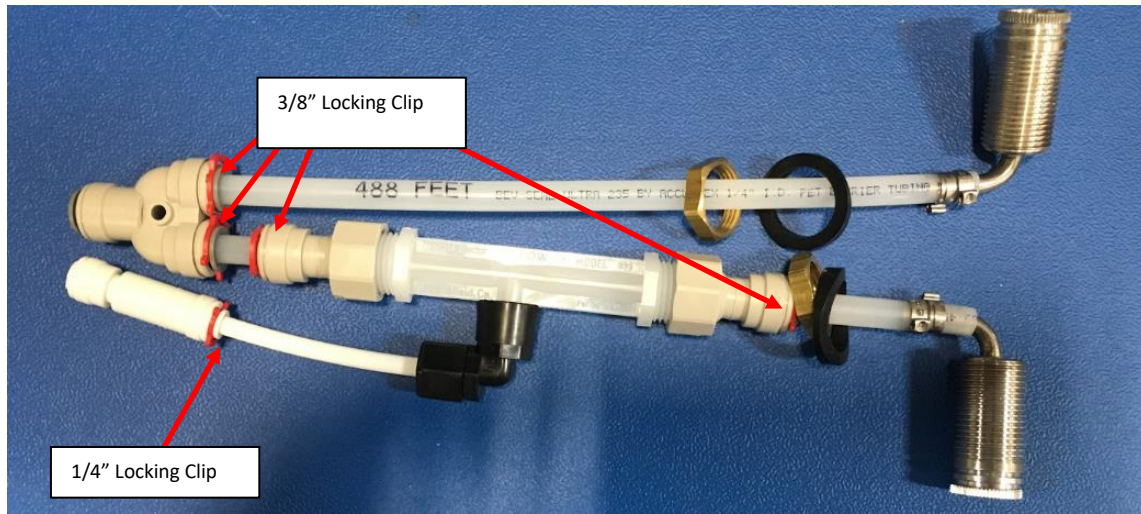

Figure H18: *Locking Clips shown in place.*
- 4.2.1.** Check to verify all push to fit joints are secured with locking clips. There should be four (4) 3/8" Locking Clip and one (1) 1/4" Locking Clip for a total of five (5) locking clips. **See Figure H18.**